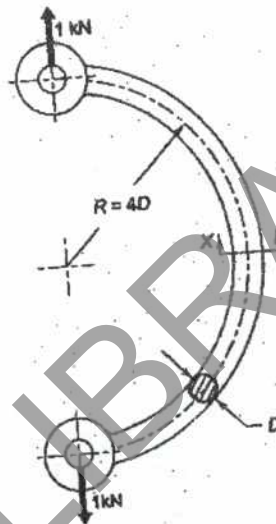

Fig.Q1 (a)
- 1 a. Determine the dimensions of the curved bar shown in Fig.Q1 (a). Assume  $\sigma_{yt} = 400\text{N/mm}^2$  and FoS = 3.5. (12 Marks)